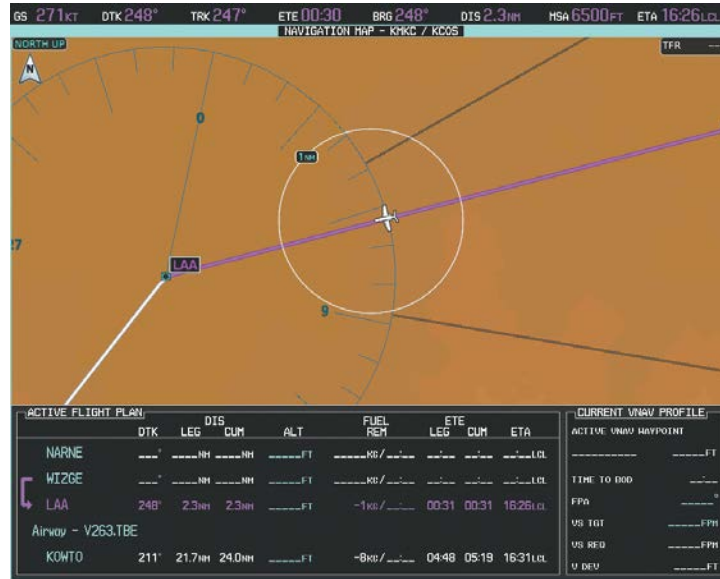

Figure 5-165 WIZGE to LAA Leg Active
10) At Lamar VOR (LAA) V263 is intercepted. See Figure 5-165.